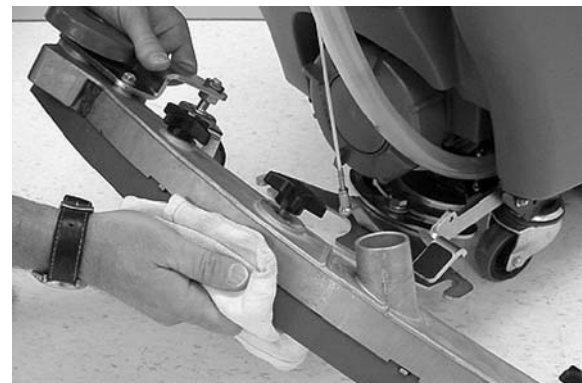

FIG. 43
6. Wipe the squeegee blades clean (Figure 43). Store the squeegee assembly in the raised position to prevent blade damage.